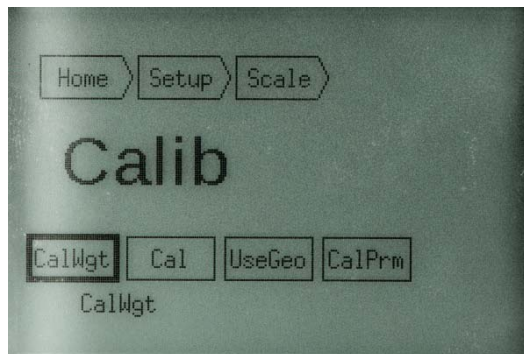

Figure 4-27: Calibration Setup Screen
1. In the Calibration setup screen (Figure 4-27), scroll to **UseGeo** and press ENTER.